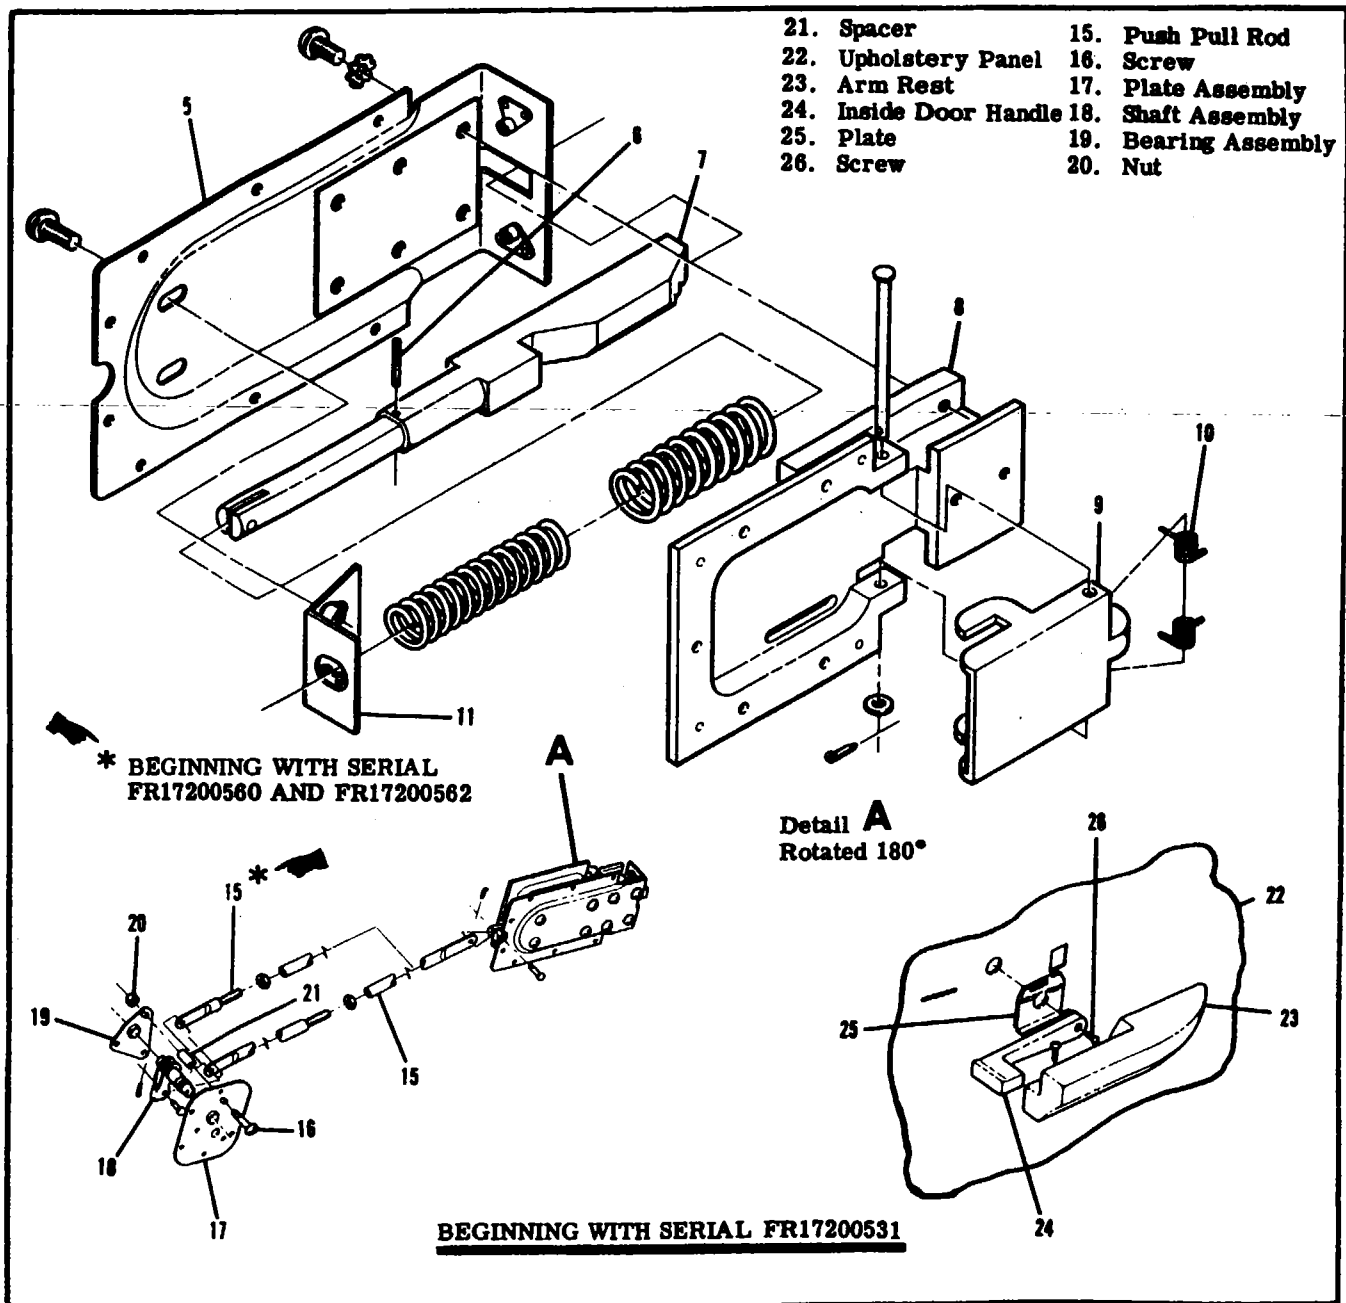

Figure 3-4. Door Latch Installation(Sheet 2 of 2)
b. BEGINNING WITH FR17200531. (Refer to figure 3-4, Sheet 2.)
1. Temporarily install handle (24) on shaft assembly (18) approximately vertical.
2. Move handle (24) back and forth until handle centers in spring-loaded position.